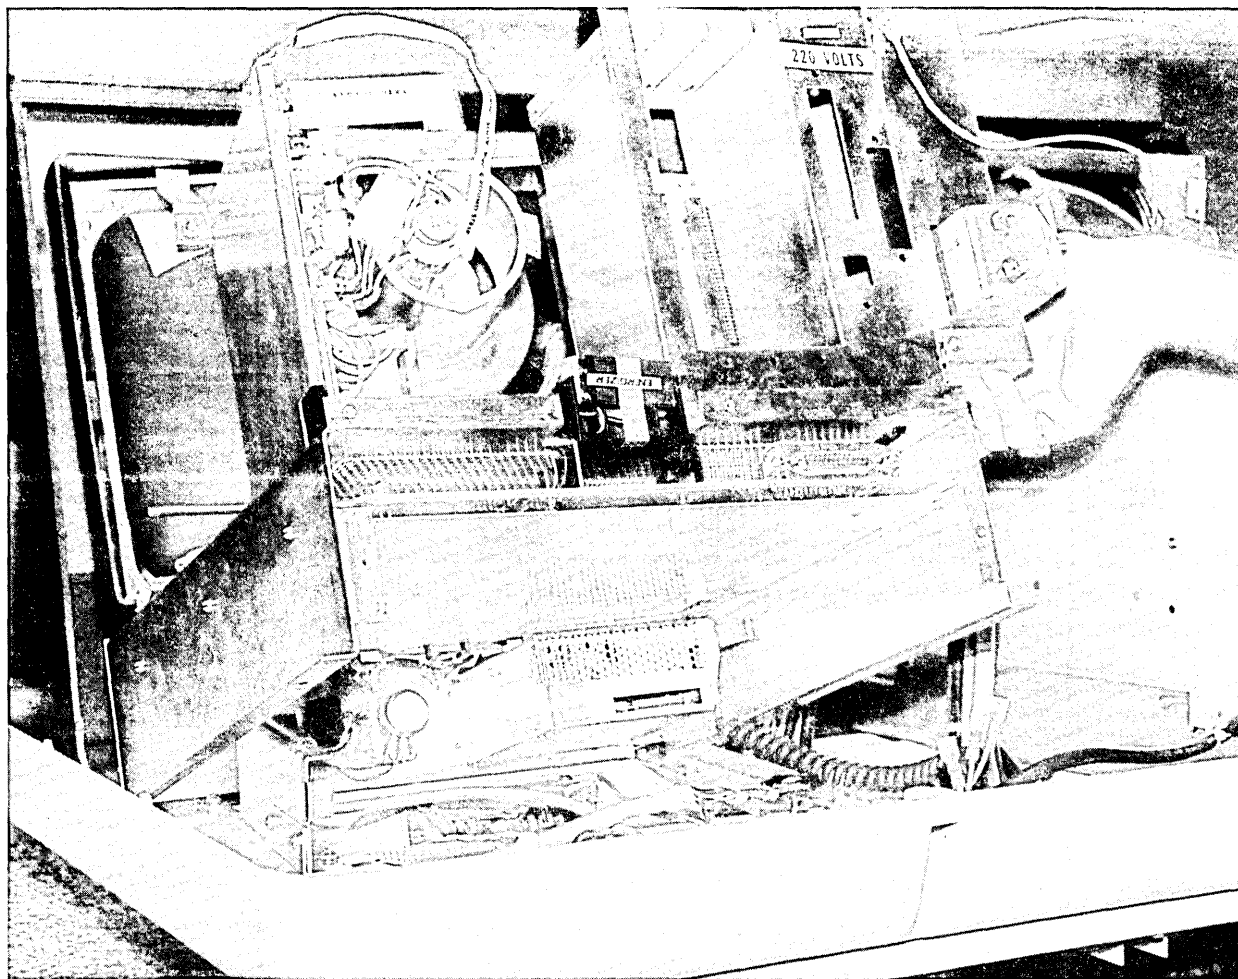

Figure 5-27. Bottom of Monitor Showing Disk Drive
1. See figure 5-27. The removal of the disk drive requires access to the bottom of the disk drive housing; obtaining this access requires that the entire monochrome monitor chassis assembly be removed toward the rear of the workstation and then tilted upward as in the figure.